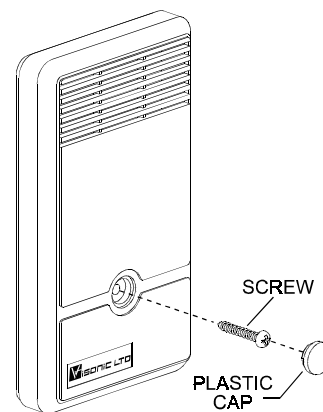

Figure 3. Securing Screw and Cap
F. Verify that the detector does not respond to environmental sounds that are not considered an alarm. Readjust the two controls if necessary. When through adjusting the detector, reposition the front cover with the grille at the top. Secure with the screw and insert the plastic cap over the screw (Fig. 3).